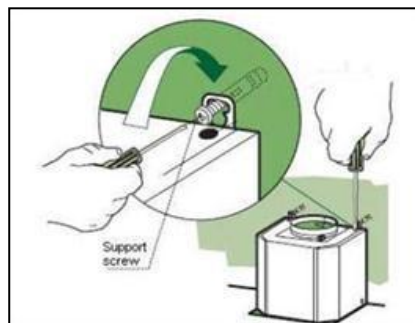

Fig. 9
- Fix the hood body to wall using 2(two) ST5 x 25 screws provided. Tighten screws firmly. Note: Adjust the hood body alignment if necessary (Fig. 9).
Aligning the hood body (if necessary) (Fig. 9)